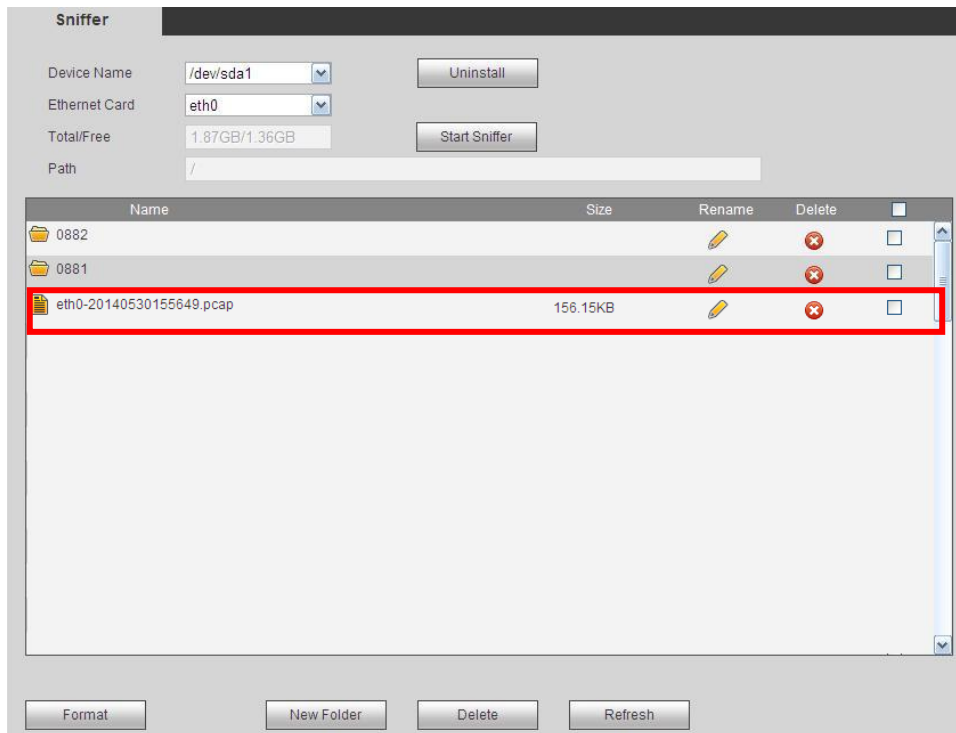

Figure 3-65
- 3) Click **Stop Sniffer** button, system stops writing data to the flash drive. Click refresh button, you can see a file with extension name. pcap. See Figure 3-65.